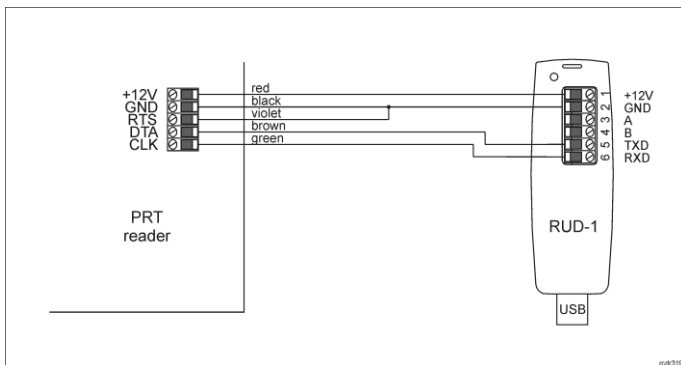

Fig. 1 Connection of reader to RUD-1 interface
1. Connect the reader to RUD-1 interface (fig. 1) and connect the RUD-1 to computer's USB port.
The update requires connection of reader to computer with RUD-1 interface (fig. 1) and starting RogerISP software. The latest firmware file is available at www.roger.pl.